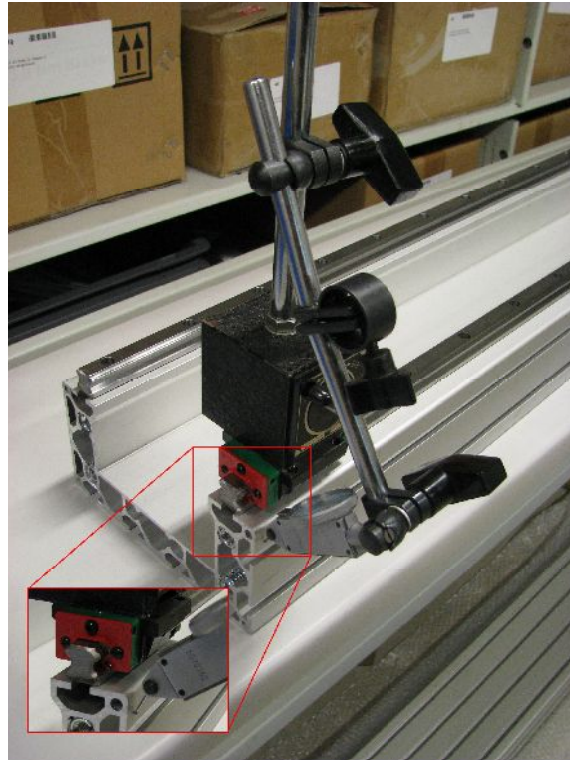

Figure 3.7: Align the rails using a dial gauge
- Place your magnetic stand on the Hiwin carriage, and set the dial gauge to 0.00 on the side of the 80x160E profile as shown in figure 3.7: